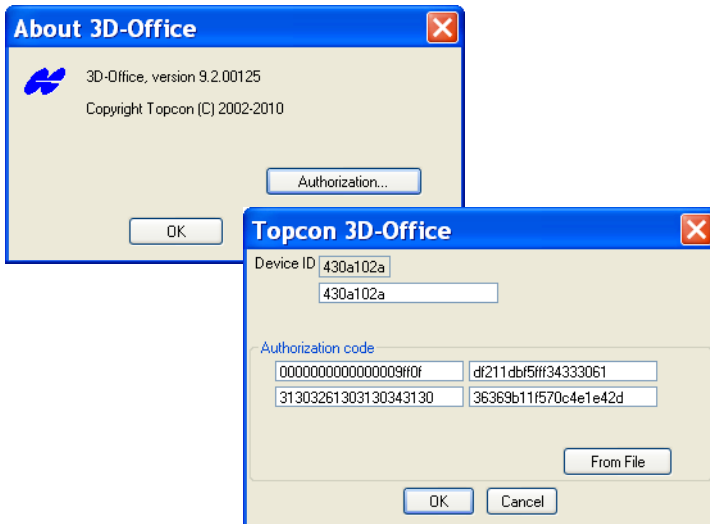

Figure 1-19. About 3D-Office.
On the *About 3D-Office* dialog box, press **Authorization**. The *Topcon 3D-Office* dialog box contains (Figure 1-19 on page 1-25) the following information:
4. Press **Authorization** on the *About 3D-Office* dialog box and enter the new authorization codes (Figure 1-19 on page 1-25).